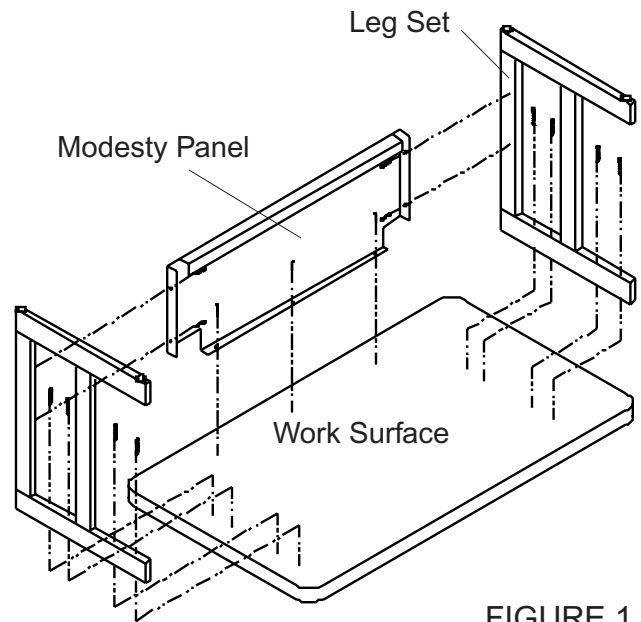

FIGURE 1
3. Align modesty panel between leg sets and insert (2) #12 x 3/4" screws per left and right side. Insert #10 x 1" screws through the modesty panel and the bottom of the work surface -- **DO NOT TIGHTEN**. Tighten all screws attaching the leg sets to the modesty panel. (Figure 1)